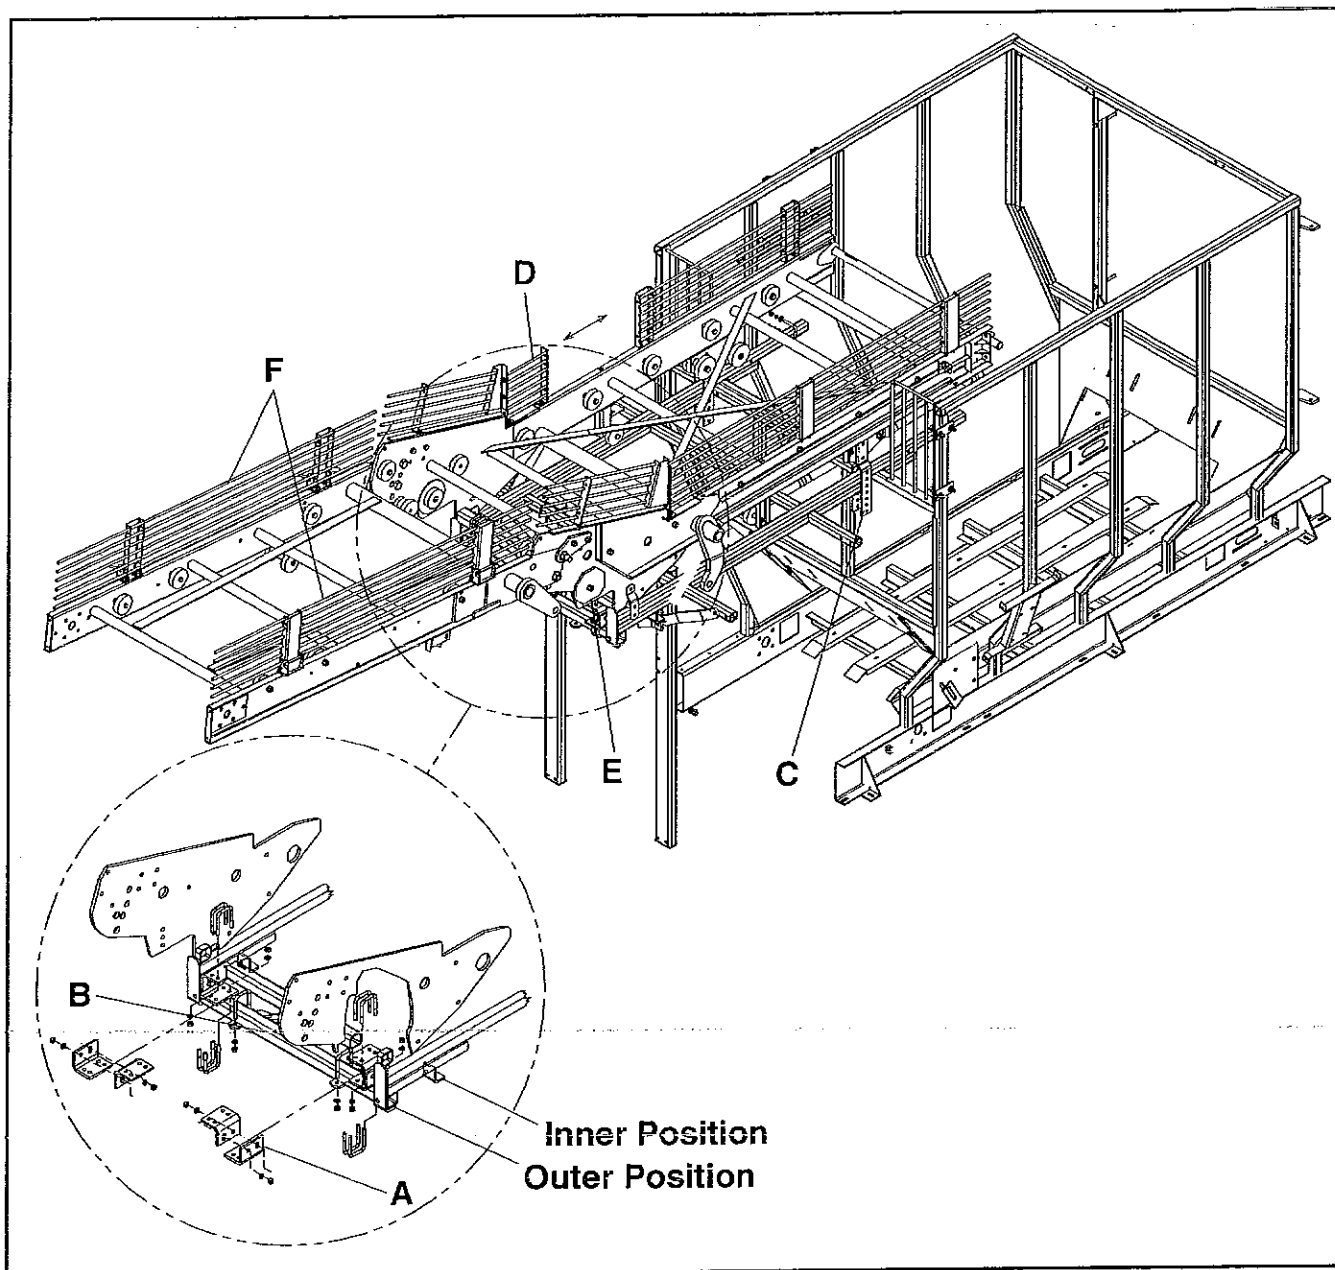

Figure 2.31: Elevator Positioning.
Two positions are provided 11" apart for the position of the elevator in or out to more accurately match the tracking of the truck on the rows (see Figure 2.31). Disconnect the support angles (A). Move the 2-1/2" square tube (B) to the appropriate new position. Loosen the inner tie straps (C). **Do NOT** remove bolts or elevator will tip. Move the elevator in or out, tighten straps and reattach angles. Note; 11" grate (D) must be repositioned. Note that the inner tie straps (C) can be used to tilt the elevator higher or lower. **To reposition - elevator MUST BE supported.** After these adjustments the fold down stop must be readjusted.
After positioning elevator, the folding stop must be adjusted. See Figure 2.31. Note that the elevator aligns with the rear frame tube. It may be desirable for certain spacings to cut rear frame tube off to allow minimum
To narrow the machine the side grates (F) on the truck boom can be folded down (see Figure 2.31). They are held in the up or down position by a $\frac{3}{8}$ " diameter pin. Do not run the elevator with the grates down.